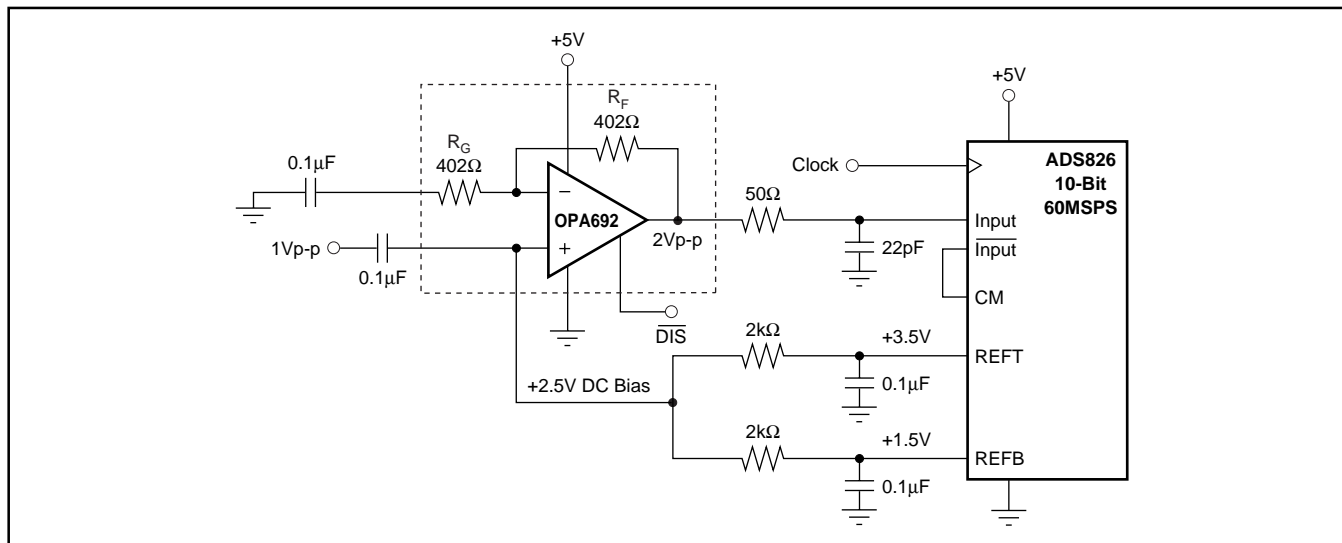

FIGURE 3. Wideband, AC-Coupled, Single-Supply ADC Driver.
exceeding 5MHz. The high slew rate, exceptional output swing, and high linearity of the OPA692 make it an ideal single-supply ADC driver. Figure 3 shows an example input interface to a very high performance 10-bit, 60MSPS CMOS converter.
The OPA692 in the circuit of Figure 3 provides 190MHz bandwidth operating at a signal gain of +2 with a 2VPP output swing. The noninverting input bias voltage is referenced to the midpoint of the ADC signal range by dividing off the top and bottom of the internal ADC reference ladder. With the gain resistor (RG) AC-coupled, this bias voltage has a gain of +1 to